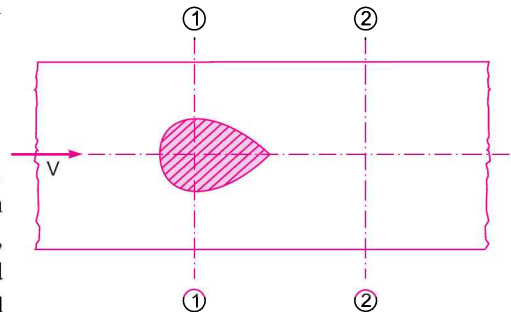

Fig. 11.3 (a) An obstruction in a pipe.
11.4.5 Loss of Head Due to an Obstruction in a Pipe. Whenever there is an obstruction in a pipe, the loss of energy takes place due to reduction of the area of the cross-section of the pipe at the place where obstruction is present. There is a sudden enlargement of the area of flow beyond the obstruction due to which loss of head takes place as shown in Fig. 11.3 (a)
Consider a pipe of area of cross-section A having an obstruction as shown in Fig. 11.3 (a).